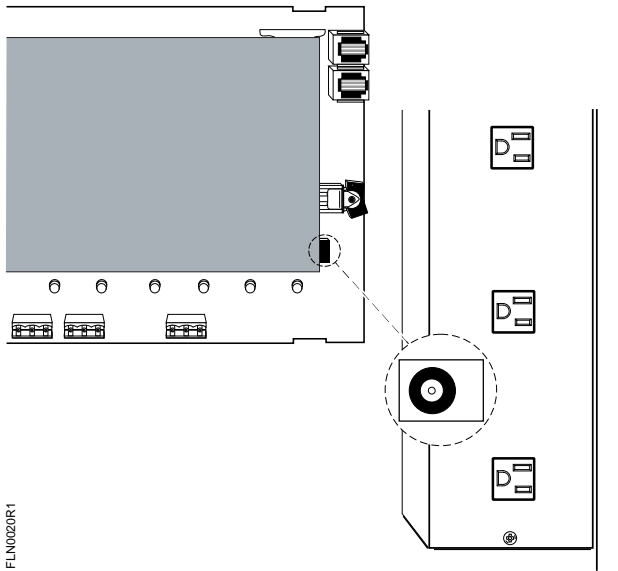

Figure 11. 12 Vdc Power Supply Connection to Easylink Module.
1. Insert the DIN plug into the DIN socket labeled "12 Vdc" on the Easylink Module (Figure 11).